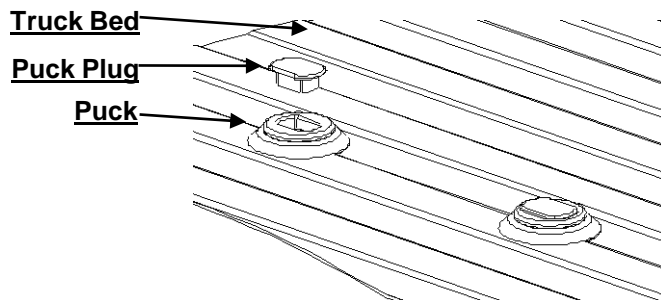

Figure 4: Puck Plugs
1. Remove puck plugs from all (4) of the pucks in the truck bed (Figure 4) and store for use when adapter is removed.
4. Press puck plugs (packed with mounting kit) into all (4) of the pucks in the truck bed to keep debris out of pucks (Figure 4).